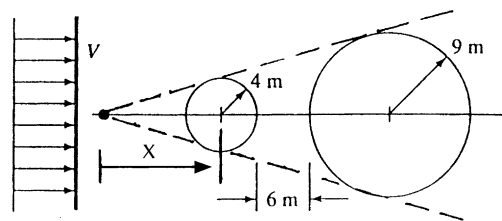

Fig. P10.6
**10.6** Pebbles dropped successively at the same point, into a water-channel flow of depth 42 cm, create two circular ripples, as in Fig. P10.6. From this information, estimate (a) the Froude number; and (b) the stream velocity.